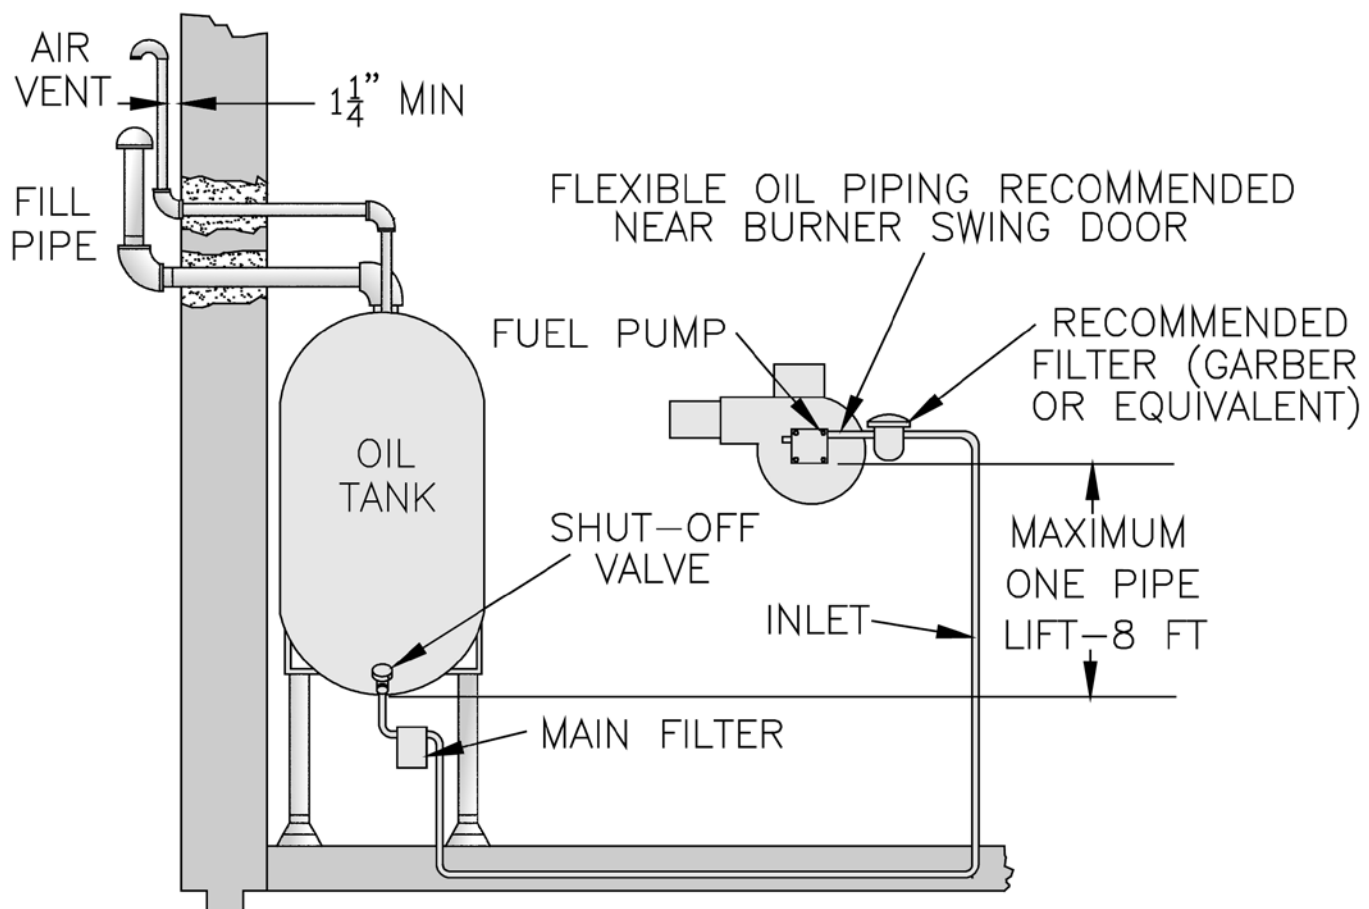

Figure 17: Single-Pipe Installation
2. The single-stage fuel unit may be installed single-pipe with gravity feed or lift. Maximum allowable lift is 8 feet. See Figure 17.